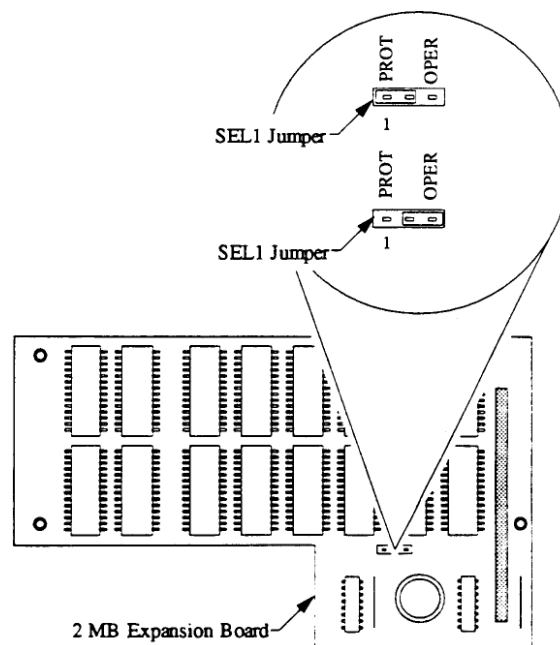

Figure 54 - 2MB Expansion Board Jumper Setting
- 7) On the 2MB board, place the SEL1 jumper to contact the center post and the right-hand (OPER) post (see Figure 54).